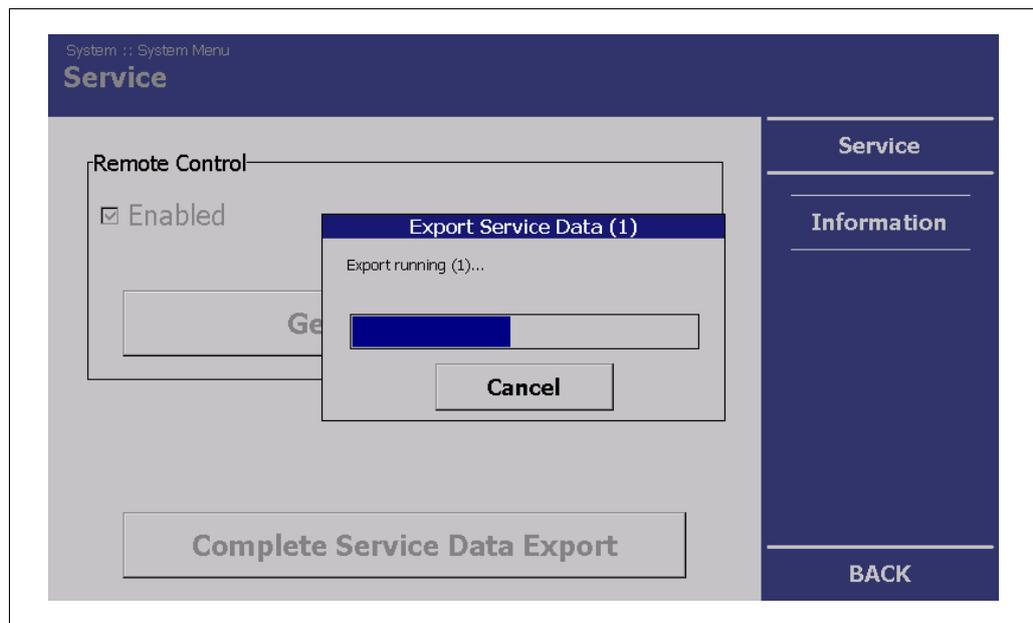

Fig. 41 System Menu, Service - Export of the service data
- ▶ Before the update, carry out a back-up of the measurement channel settings (chapt. 6.4.6, Fig. 41) and then import the backed-up settings after a successful software update.